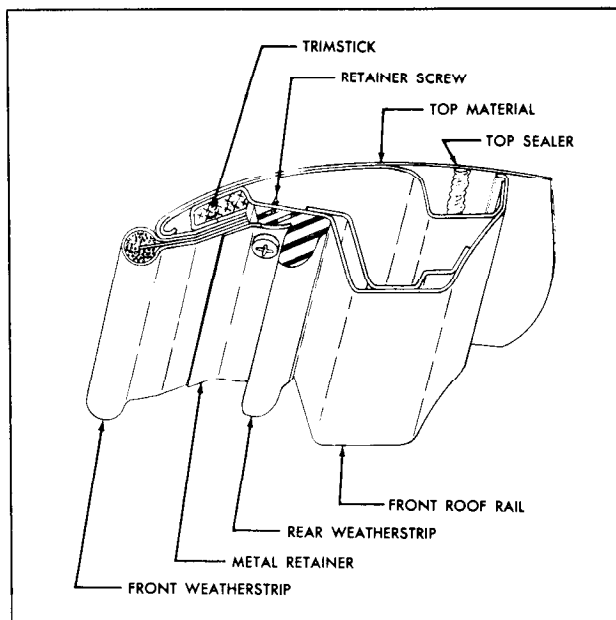

Fig.17-20 Front Roof Rail Sealing
3. At the front of body, raise front roof rail, remove retainers and front weatherstrips, detach top material from front roof rail. (Fig. 17-20)